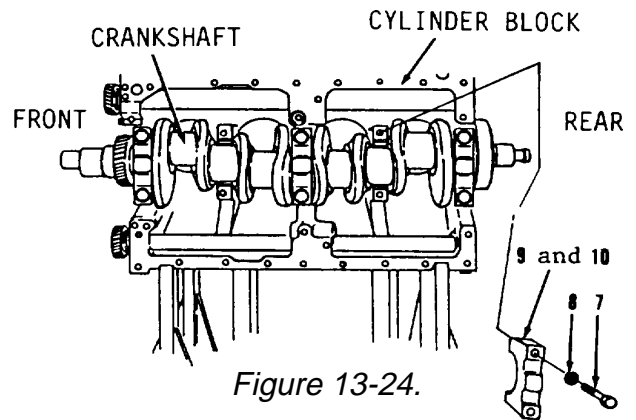
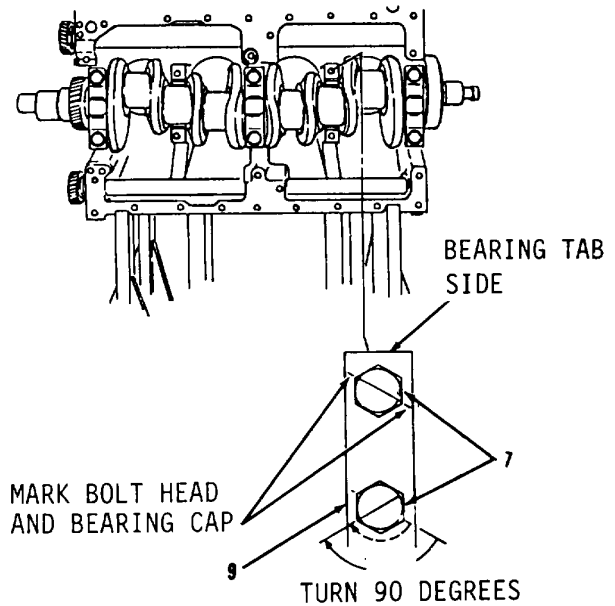

Figure 13-24.
Figure 13-31.
1. Remove four bolts (7), washers (8) and two items 9 and 10 as an assembly (Figure 13-24).
1. Position two items 10 and 9 as an assembly (Figure 13-24) under crankshaft journal of intermediate main bearing, aligning holes.
2. Coat four washers (8) and bolts (7) with clean engine oil and install finger tight.
3. Tighten two of four bolts (7) at bearing tab side of two bearing caps (9, Figure 13-31) to 30 ft-lb torque.
4. Tighten two of four bolts (7) opposite bearing tab side of two intermediate bearing caps (9) to 30 ft-lb torque.
5. Mark four bolts (7) and two bearing caps (9) with chalk.
6. Tighten two of four bolts (7) opposite bearing tab side of two intermediate main bearing caps (9) a further 90 degrees, using chalk mark as an aid in estimating how far to tighten two of four bolts (7).
7. Tighten two of four bolts (7) at bearing tab side of two intermediate main bearing caps (9) a further 90 degrees.